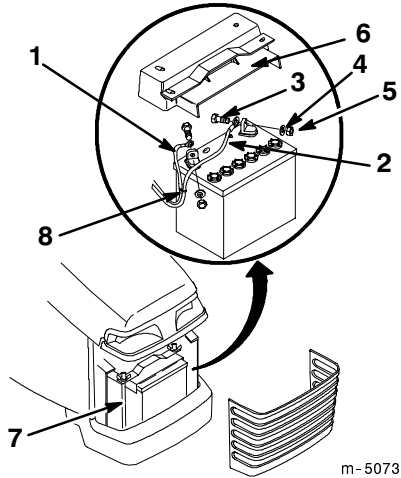

Figure 52
3. Remove the battery shield (Fig. 52).
4. Disconnect the negative (black) ground cable from the battery post (Fig. 52).
5. Disconnect the positive (red) cable from the battery post (Fig. 52).
1. Place the battery onto the chassis (Fig. 52).
2. Using the bolt, washer and locknut, connect the positive (red) cable to the positive (+) battery post (Fig. 52).
3. Using the bolt, washer and locknut, connect the negative (black) cable to the negative (-) battery post (Fig. 52).